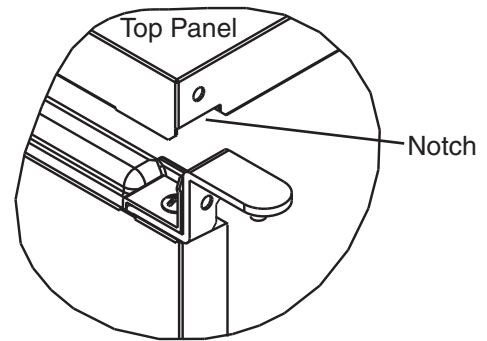

**Fig. 3**
- 3) Remove hinge (A) and the bracket from the right side of the unit and the top brace from the left side. Rotate hinge (A) to position the gasket notch to the inside, then fasten hinge (A) and the bracket to the left side and the top brace to the right side. See Fig. 3.